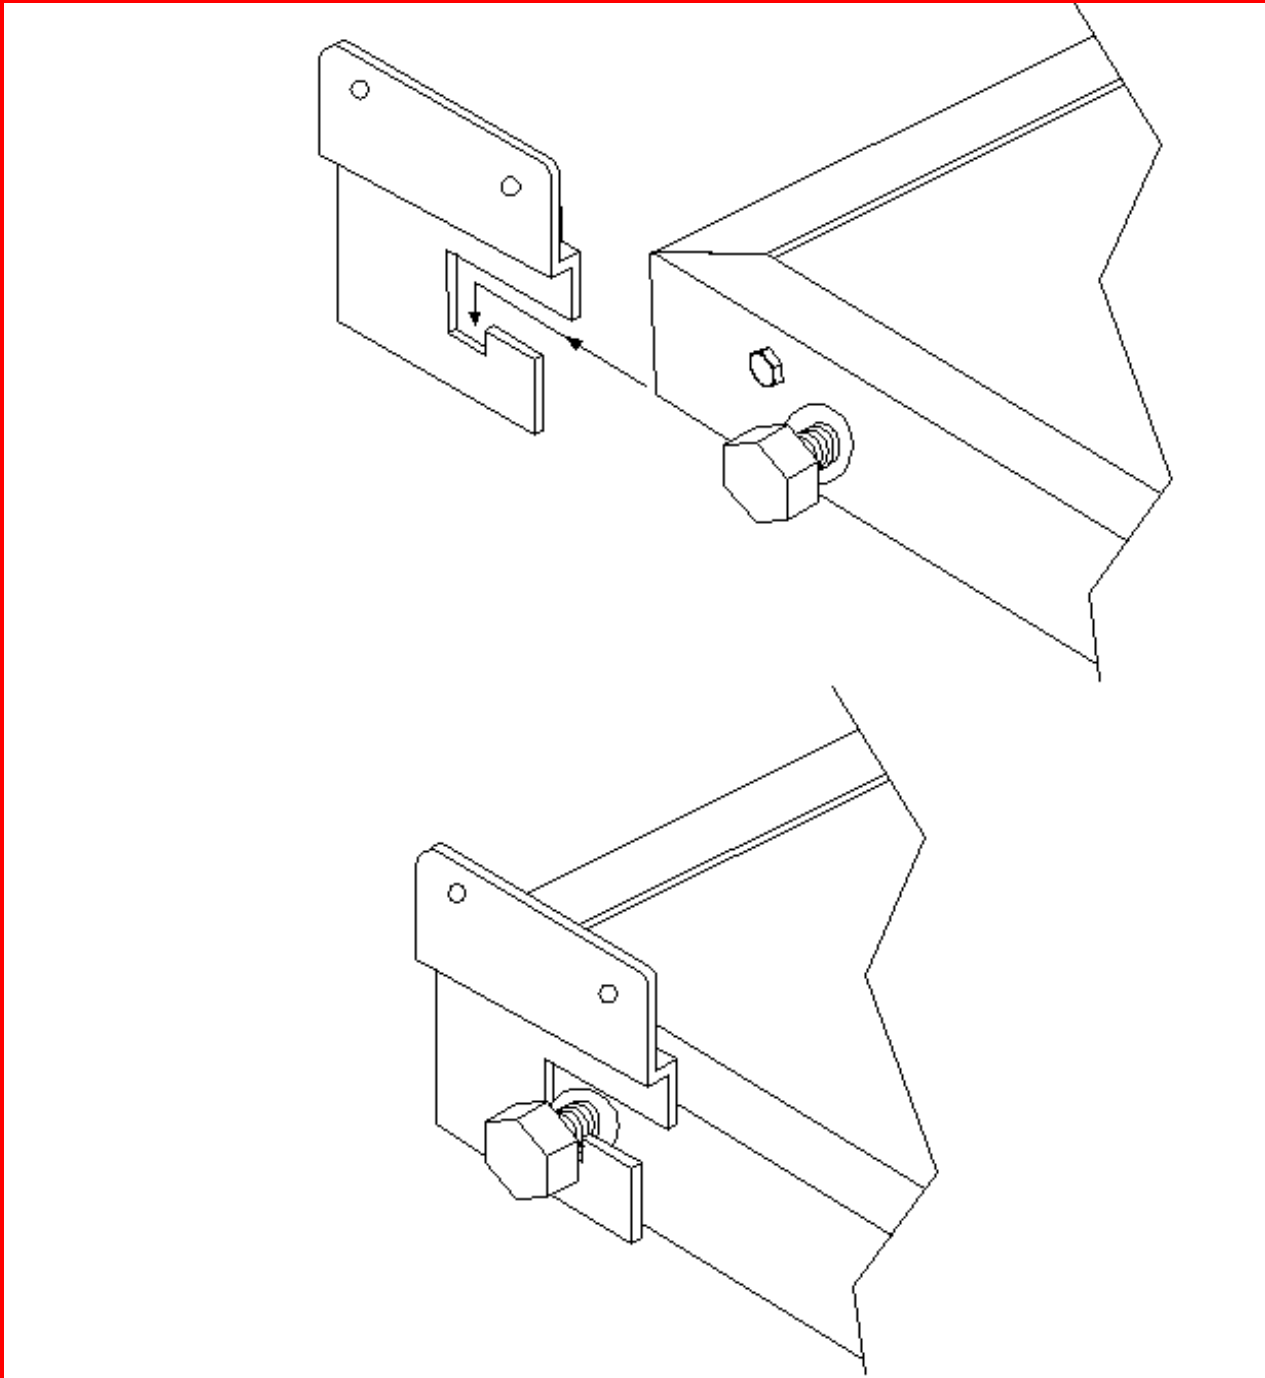

Figure 8.
- Place the rest bench into positions by situating the bolts into the slot in the front of the restbench brackets and pushing toward the back of the slot until you feel the bolts drop into the bottom of the slot as shown on Figure 8.